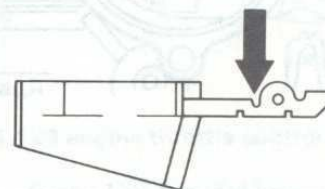

Fig. 3.16 Float adjustment bending point (Sec 10)
- 16 With the gasket removed, use a screwdriver to depress the short end of the float arm so that the needle valve is shut, then use vernier calipers to measure the float height in relation to the top surface of the carburettor. If the dimension is not as given in the Specifications, bend the arm as shown in Fig. 3.16.